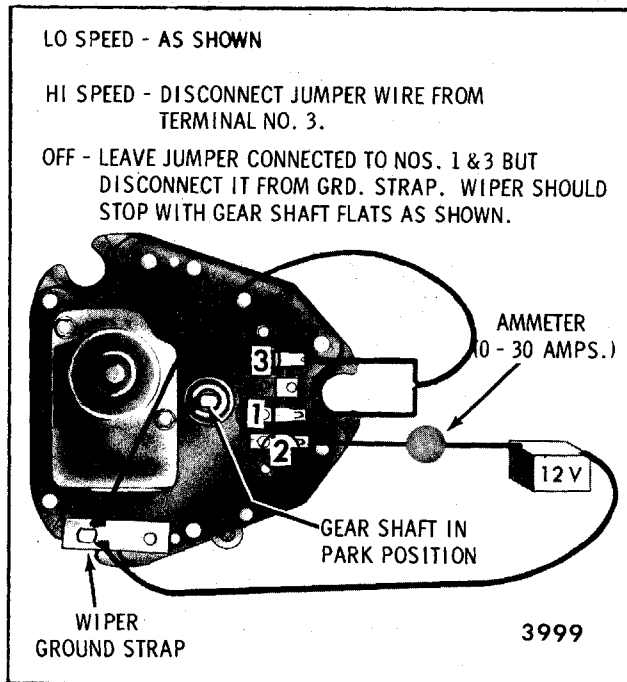
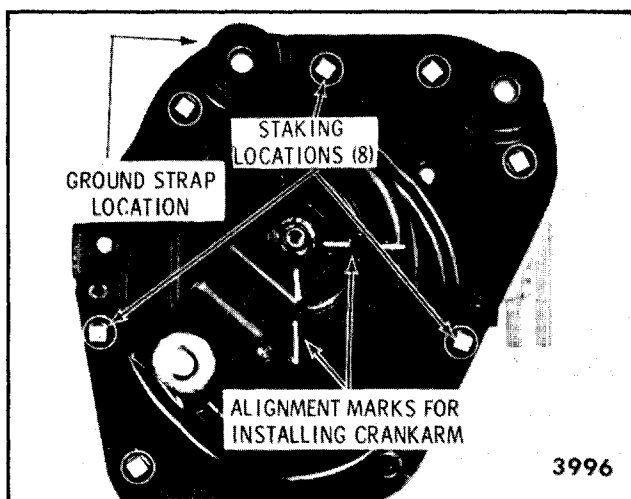

Fig. 2-6-Jumper Wire Connections
Fig. 2-14-Staking Locations
3. Disconnect wiring harness from wiper and try operating wiper as shown in Figure 2-6.
DIAGNOSIS CHART - WIPER OFF CAR - Figures 2-6, 2-11 and 2-12
4. Drill out staking that secures gear box cover (Fig. 2-14). Use a 9/32" drill.
8. To reassemble crank arm in proper position, operate wiper to park or off position (Fig. 2-6) and install crank arm so that index marks on crank arm line up with those on the gearbox cover (Fig. 2-14).
9. Operate wiper (Fig. 2-6) and check performance per data in specification chart (Fig. 2-19).